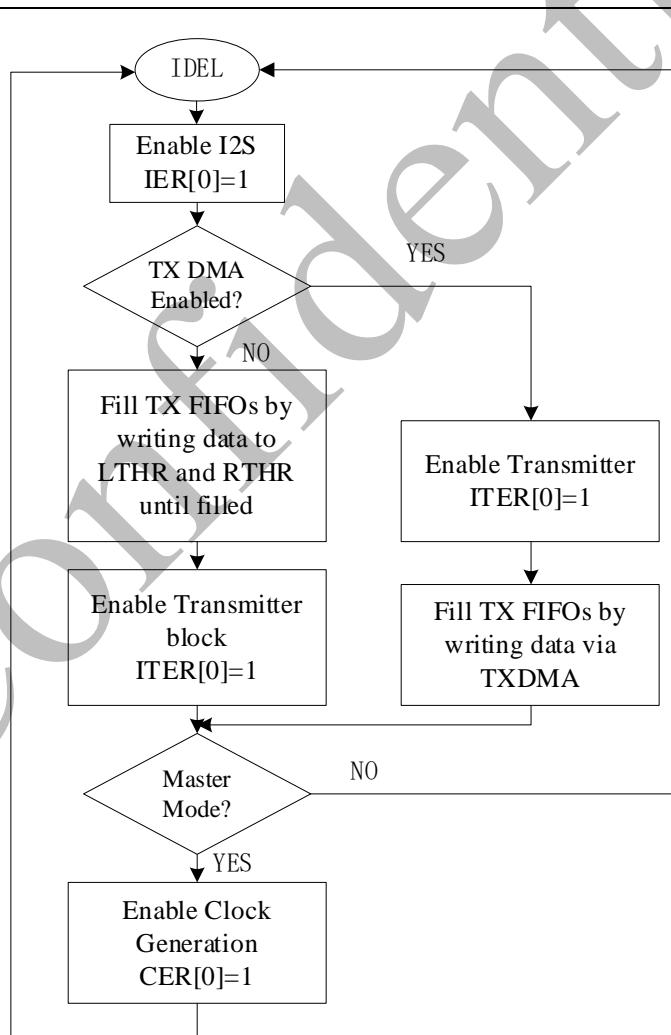

Figure 3-88 Transmitter Block Flow Chart
The I2S component supports only one stereo I2S transmit (TX) channel. This channel operates in master mode or slave mode. Stereo data pairs (such as, left and right audio data) written to a TX channel via the APB bus are shifted out serially on the appropriate serial data out line (sdo). The shifting is timed with respect to the serial clock (sclk) and the word select line (ws). The basic usage flow (I2S as Transmitter) is shown in Figure 3-88.